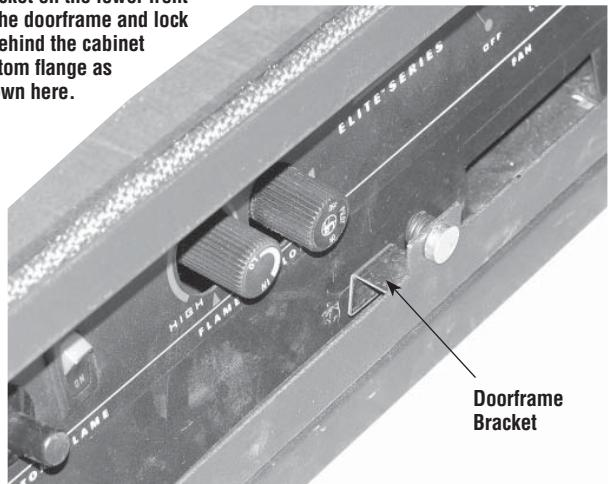

Figure 7
6. Place the doorframe bracket in the locked position as shown in *Figure 7*.